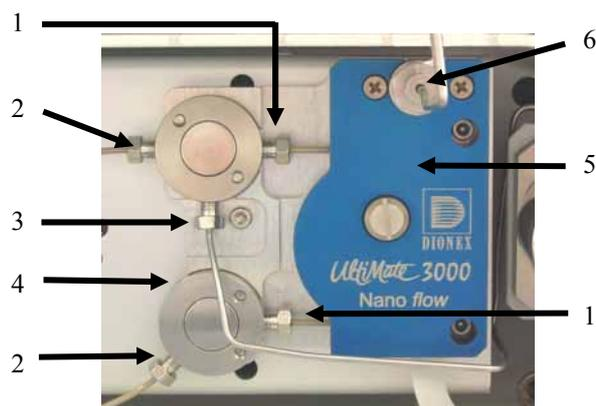

Fig. 22: Flow Splitter
The flow manager is equipped with a flow splitter (→ Fig. 22) that delivers the low flow rates required for capillary, micro, and nano HPLC applications. Splitter cartridges with different split ratios are available for the different applications.
⚠ Important: The flow sensor connectors (→ Fig. 22, no. 2) and the flow control valve connectors (→ Fig. 22, no. 3) are installed in the factory. They should not be opened by the user.
⚠ Important: Les raccordements au capteur de débit (→ Fig. 22, no. 2) et à la vanne de régulation de débit (→ Fig. 22, no. 3) sont effectués en usine. Ils ne doivent pas être modifiés par l'utilisateur.
- ◆ Connect the capillary to the flow splitter (→ pump connector, Fig. 22, no. 6).
2. Establish the connection to the capillary connector (→ Fig. 22, no. 4) as required by your application. For the system structure shown in Fig. 10, connect the capillary to the flow manager's right switching valve (port 4; → page 32).
1. Disconnect the capillary on the flow splitter's pump connector (→ Fig. 22, no. 6).